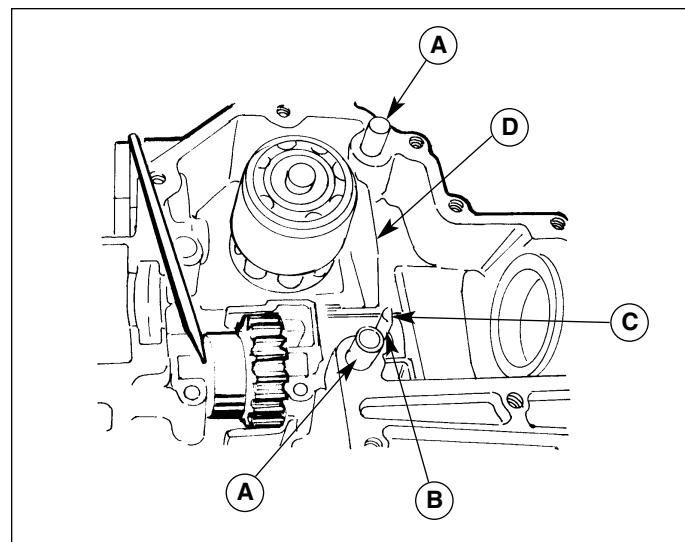

Figure D-31. Install Aligning Pins & Bypass Actuator
- Install the aligning pins (A, Figure D-31) and the bypass actuator into transaxle housing. Align the straight edge (C) of the bypass actuator (B) with the casing boss (D) or the bypass plate will be damaged.